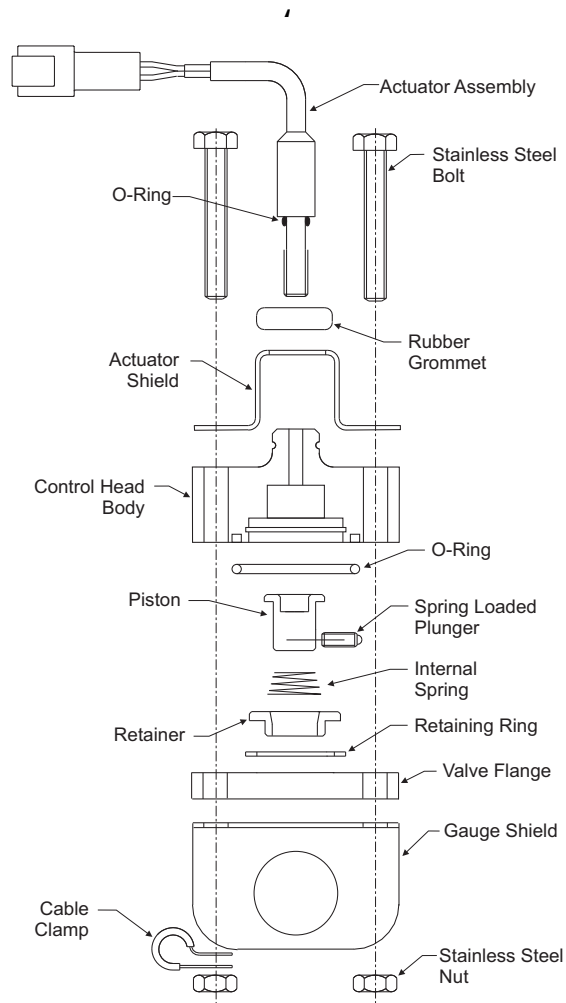

Figure 6-3. Exploded View of Electric Operated Control Head and Control Head Body
12. Inspect condition of O-Ring seal in the body of the control head where it mates with the valve flange (see Figure 6-3). Replace if necessary. Lubricate with Dow Corning 55M grease or equivalent.
16. Secure both bolts tightly. The nuts are self-locking and wrenches will be required to secure and tighten the head to the valve flange (see Figure 6-3).